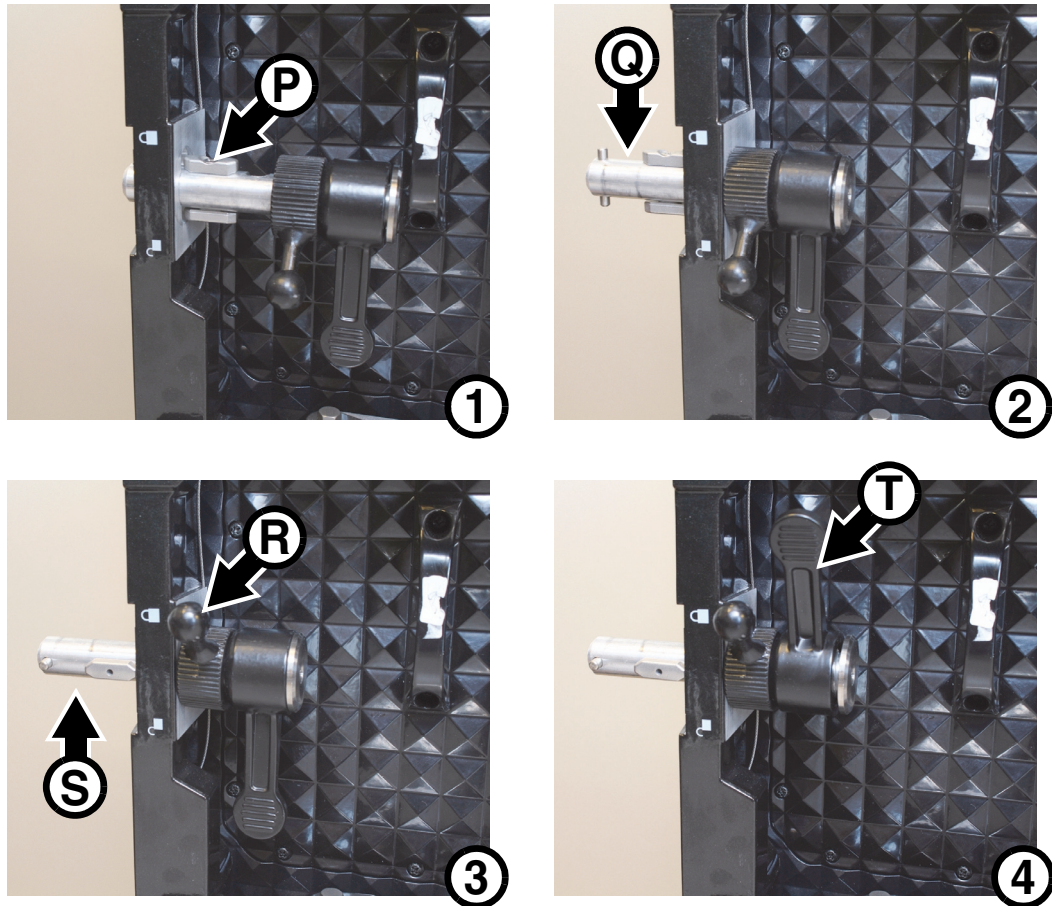

Figure 16: Side-to-side panel fastening
3. See Figure 16. with the two panels in position beside each other, push the first panel's side-to-side locking bar **P** out through the panel side rail and into the hole **O** in the second panel so that it is at position **Q** in photo **2** (the second panel is not shown in the photos so that the locking bar bayonet mechanism can be seen more clearly).